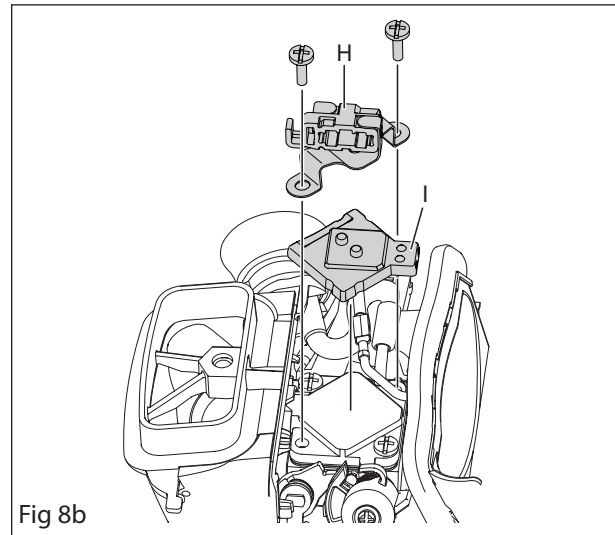

Fig 8b
3. XPG: Unscrew the contact clamp (two screws) (H) and remove the thermostat (I). See figure 8b.